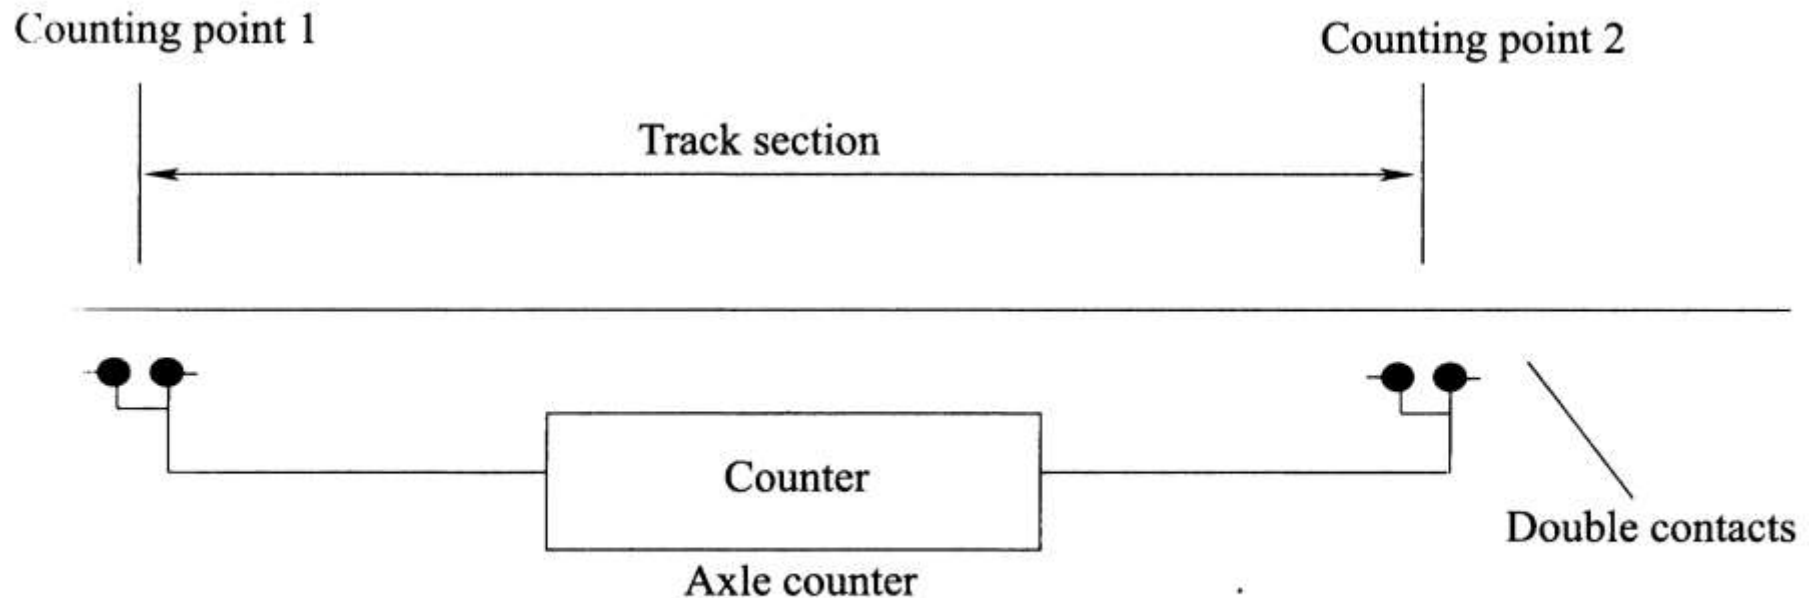

Fig. 5.4 Axle counter
- An axle counter is a system consisting of **counting points** at both ends of a section and a counter connected to the counting points. (Fig.5.4)